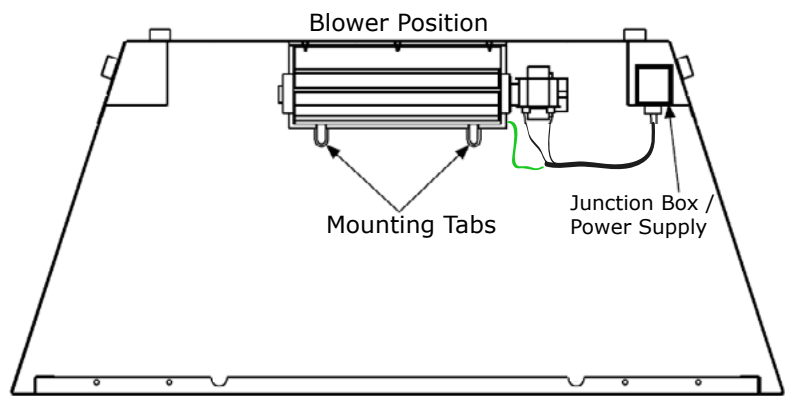

Figure: 4
**A) Gas Fireplaces- Front-open direct vent and B-vent units:** Hold fan assembly so the fan blades face up and fan motor is furthest away from fireplace. Remove the clear backing of the velcro strips attached to mounting bracket. Slide blower to the rear and position blower so the tabs on floor pan are seated in the notches of blower bracket. Bend tabs over to secure the blower assembly (Figure: 4).